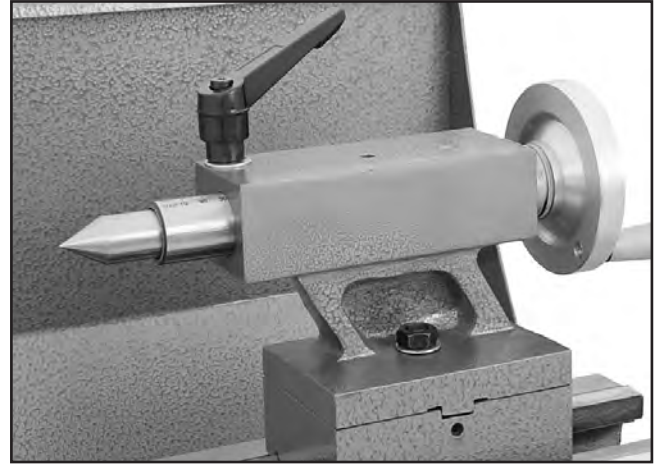

Figure 38. Dead center inserted into tailstock.
3. Use the quill handwheel to feed the quill out of the casting approximately 1" (see **Figure 38**).